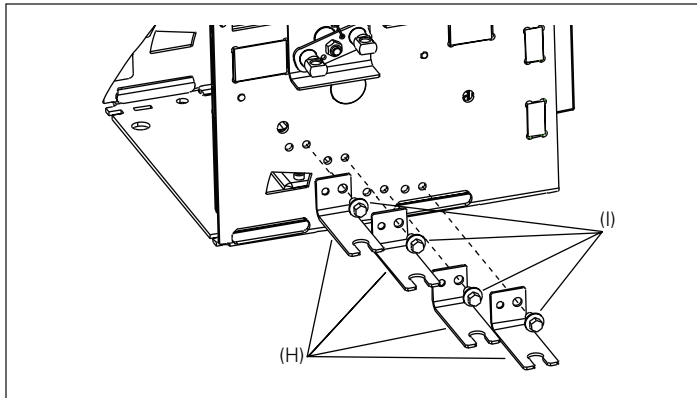

Figure 8. Details for Step 4
Fasten four cable brackets (H) to drawout cassette's right-side sheet just below interlock assembly mounted in **Step 3** using four M6 x 10 mm thread-forming screws (I) as shown in **Figure 8**. Torque to 7,3–9,6 N·m (65–85 in-lb).